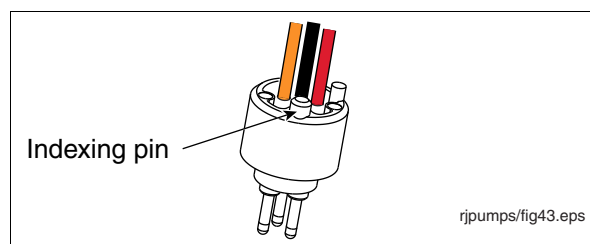

Figure 47. Male Connector's Indexing Pin
10. Notice the small indexing pin on the back of the male connector (see Figure 47).